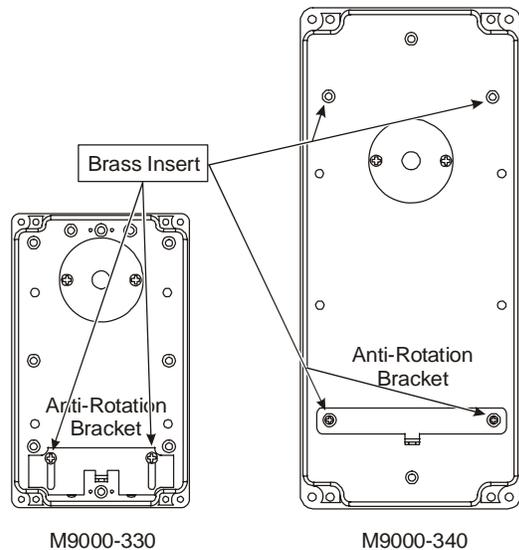

Figure 5: Proper Orientation of the Anti-Rotation Bracket
2. Insert the small brass expanding inserts into the weather shield plastic base as indicated on Figure 5 to provide threading for M3 screws.
3. Orient the anti-rotation bracket onto the enclosure as illustrated in Figure 5.